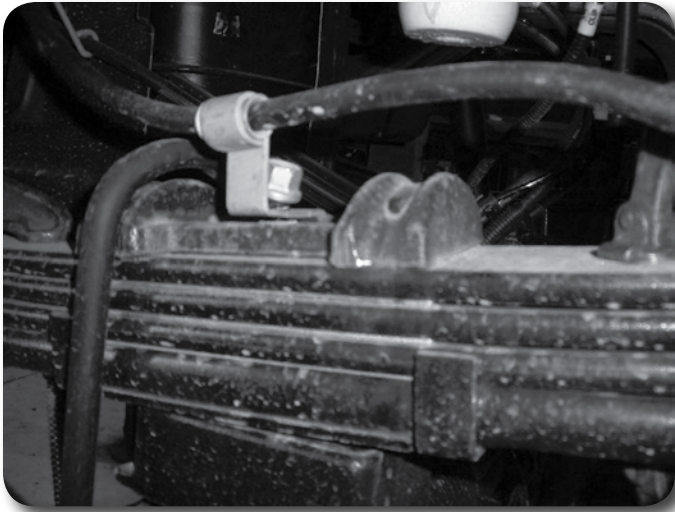

Figure 21
10. Repeat block installation of the driver's side. Take care not to over extend the brake lines. **Note:** The parking brake cable bracket will need to be removed from the spring center pin. **Figure 21**